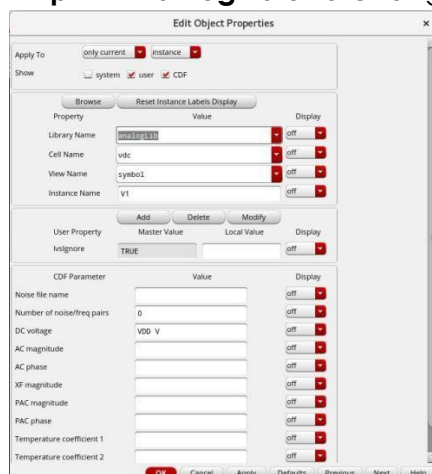
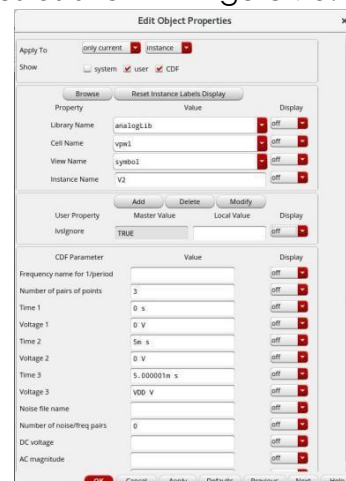

Figure 9a: vdc value setting
Figure 9b: vpwl value setting
- Next, add sources to the circuit by adding an instance and browsing the "**analogLib**" library. The power supply and the input voltage sourced need to be added. For DC supply search "**vdc**" and type "**VDD**" in "**DC Voltage**" as shown in figure 9a. Similarly, for the input we want to give a step input, again search "**vpwl**" in **analogLib** and change its values as shown in figure 9b.